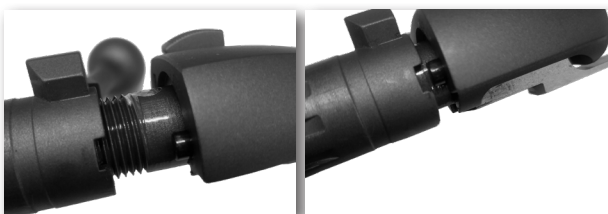

Fig. 9
7. Unscrew the bolt body from the bolt sleeve (counter clockwise) until the bolt sleeve lock aligns with the bolt sleeve detent slot in the end of the bolt body (*refer to Fig. 9*).
5. Lubricate all contact points (*refer to Fig. 9*) with a drop of Shooter's Choice FP – 10® lubricant.